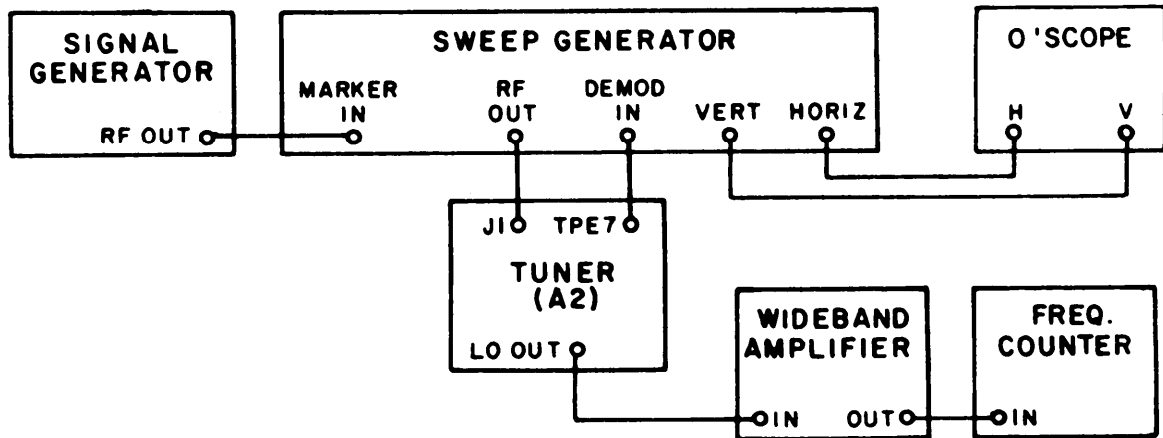
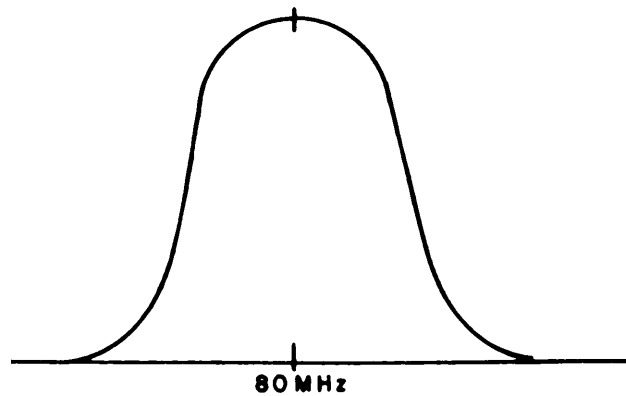

Figure 4-12. Test Setup, 20-80 MHz Tuner, Interstate Alignment Circuit Connection
Figure 4-13. Typical, 80 MHz Response Curve
- (1) Construct the circuit as in Figure 4-12.
- (2) Adjust the tuner until an 80 MHz + 10 MHz IF offset = 90 MHz is displayed on the frequency counter.
- (3) Adjust the sweep generator and oscilloscope to display the response curve.
- (4) Adjust capacitors A2A1C3, A2A2C3 and A2A2C12 for an overcoupled response centered about the 80 MHz marker. A typical response curve at 80 MHz is shown in Figure 4-13.
- (5) Check the response across the band. The response shape will vary but the marker should remain on or between the peaks.
- (6) Disconnect the test equipment and restore normal connections.